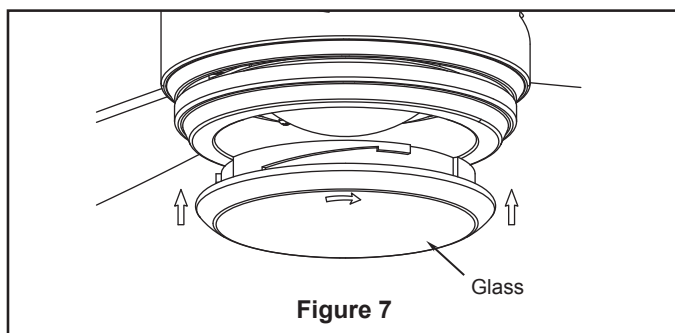

Figure 7
- ☐ 7. Secure the glass to light plate assembly by twisting in a clockwise direction. Do not over-tighten. (Figure 7)